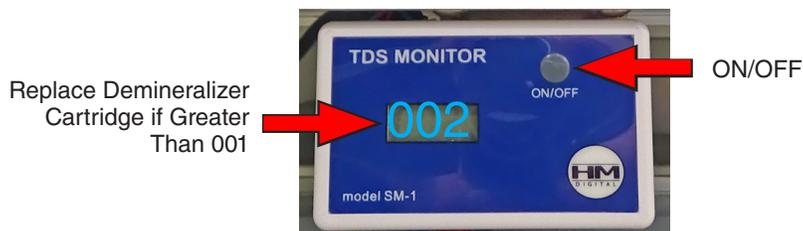

Figure 16.5d: Water purity meter reading.
- Press the ON/OFF button on the water purity meter to turn it ON (Figure 16.5d).